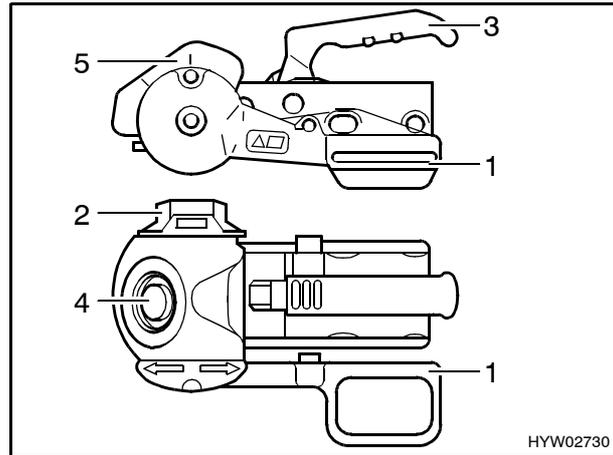

Fig. 2 AL-KO AKS 1300 stabiliser
- Pull up the stabilising lever (Fig. 2,1) as far as possible.
- Turn the handwheel (Fig. 2,2) in an anti-clockwise direction as far as possible in the open position.
- Pull the coupling handle (Fig. 2,3) upwards.
- Conduct a visual inspection: the green point on the safety indicator (Fig. 2,4) must be visible.
- Push the stabilising lever down until the marking on the stabilising lever is aligned with that on the stabilising housing (Fig. 2,5).